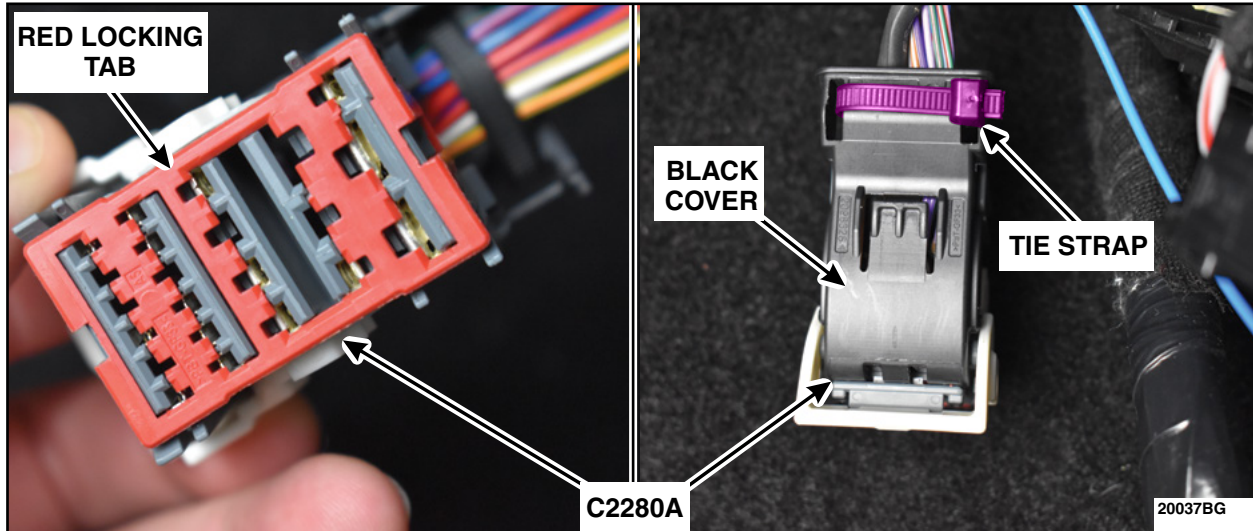

FIGURE 32
50. Reinstall the red locking tab and the black cover. Secure using a tie strap. See Figure 32. Reconnect C2280A to the BCM.